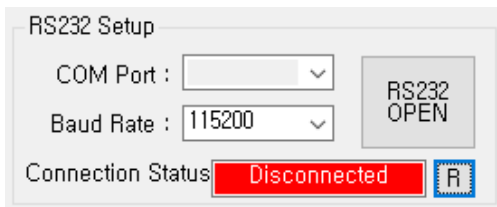

Figure 4: RS232 Setup - Disconnected
1. When the AT GUI program runs, the connection status is red (not connected). If the program does not detect any COM port, click the **R** button to refresh the COM Port. See Figure 4.